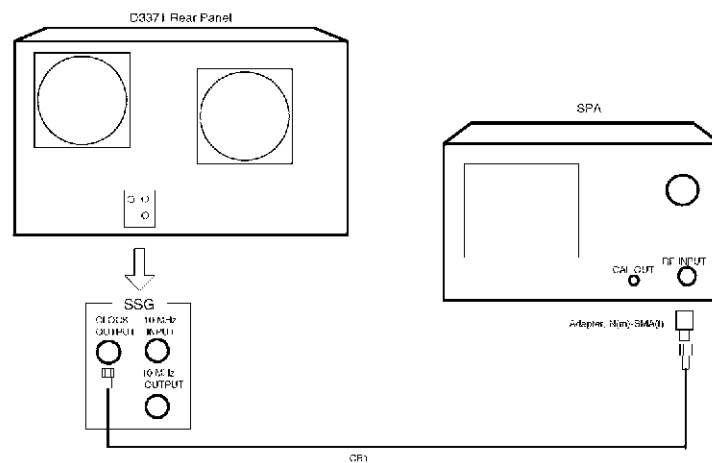

Figure 1-22 Setup of Jitter Amplitude Accuracy test
1. Connect equipment as shown in Figure 1-22.